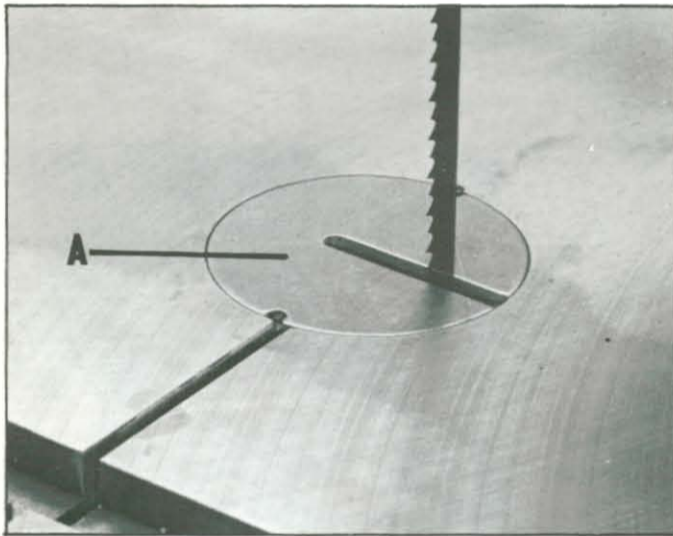

Fig. 13
Place table insert (A) Fig. 13, in the hole provided in the table making sure the pin in the table engages one of the indents in the table insert.